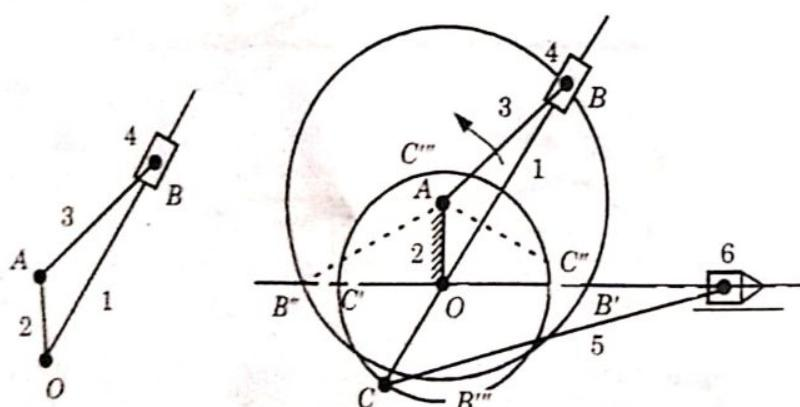

Fig. 1.12.1.
3. Whitworth quick return mechanism is shown in the Fig. 1.12.1. Link 2, OA is fixed and slider 4 rotates in a circle about A and slides on the link 1.